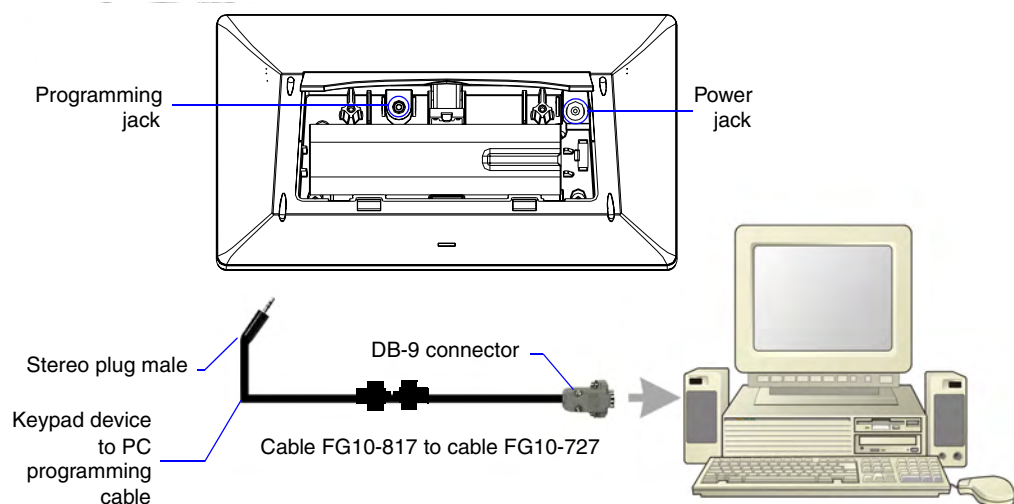

FIG. 4 Connecting The Keypad Device to Your PC
2. Connect the 2.5 mm stereo plug (male) end of the programming cable (FG10-817) into the programming port shown in FIG. 4.